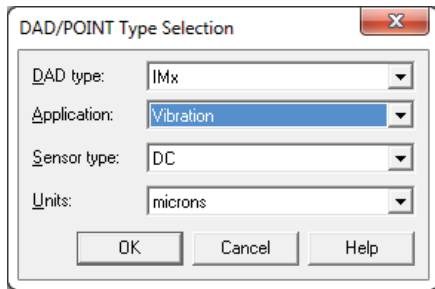

Fig. 2. Select the DAD type and application.
- 2 From the **DAD/POINT Type Selection** window, select "IMx" as the **DAD type** and "Vibration" for the **Application**. For SKF Multilog IMx, it is also possible to select "Orbit/SCL", "Vibration 2-Channel" and "Vibration 3-Channel" (refer to application note **CM3160, Create SKF Multilog On-line System IMx Orbit and SCL Points in SKF @ptitude Analyst**) (→ **fig. 2**).